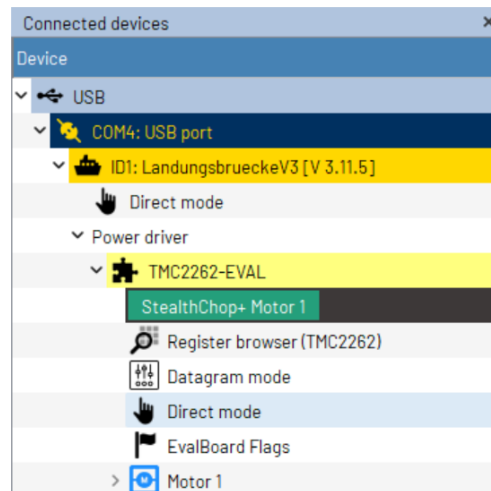
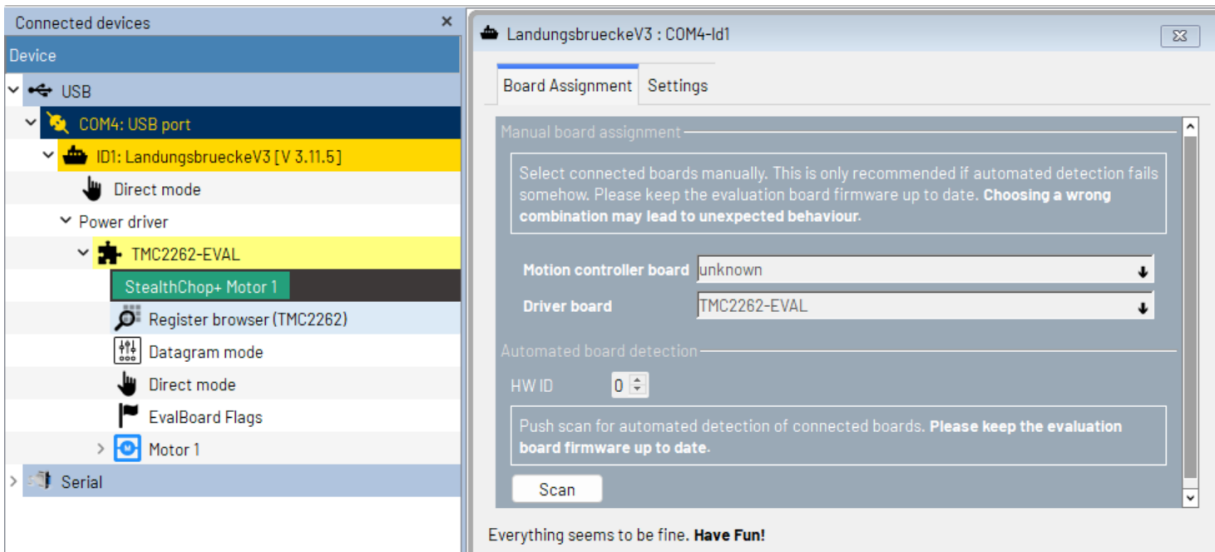

Figure 2. TMCL-IDE Device Tree
Figure 3. TMCL-IDE, Manual Selection of a Board
1. Make sure the latest version of the TMCL-IDE is installed on the computer. The latest version can be downloaded from TMCL-IDE. Open the IDE, the board is detected automatically, and it appears in the *Device tree*, as shown in Figure 2. If the board is not automatically detected, select it manually by following the steps shown in Figure 3.